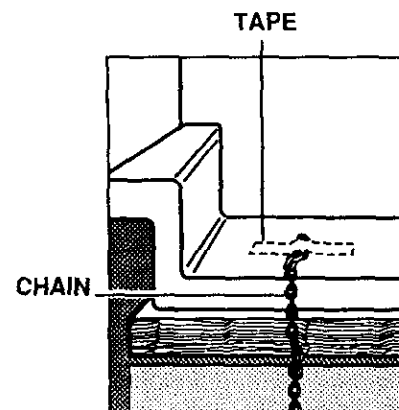

Fig. 4
- 3) Temporarily attach the loose end of the chain to the rear of the countertop with the tape from the packaging (See Fig. 4).